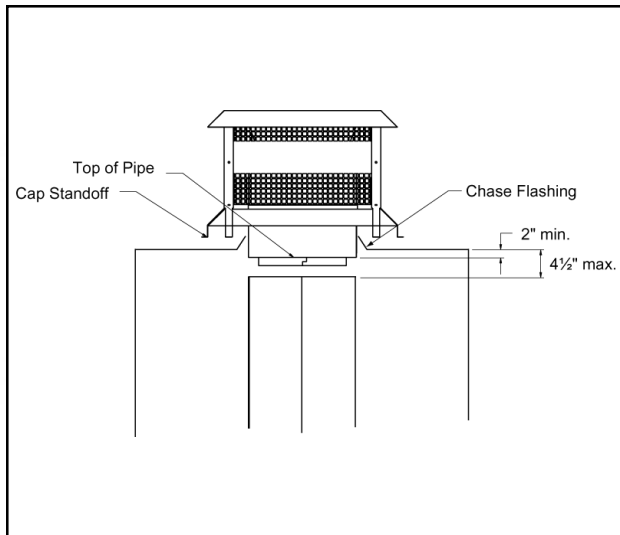

**Figure 22 - Installing a TR344/NATR344 Round Termination Cap**
- Install the chimney sections up through the chase enclosure. When using a TR344/NATR344 round termination cap, the uppermost top section of pipe must extend 6" above the top of the chase collar to allow installation of the storm collar and termination cap. See Figure 22.